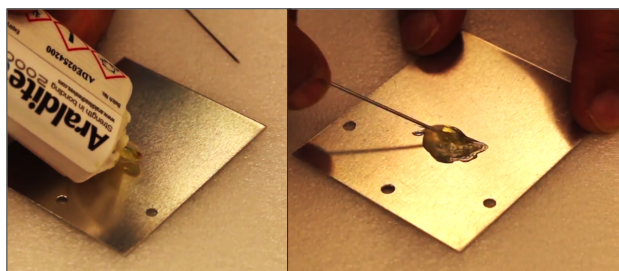

Figure 9: Mixing the epoxy glue.
Step 6: Pour the two-part epoxy glue onto the support and vigorously mix it with a clean metallic stick until you obtain an opaque and uniform paste (Fig. 9).